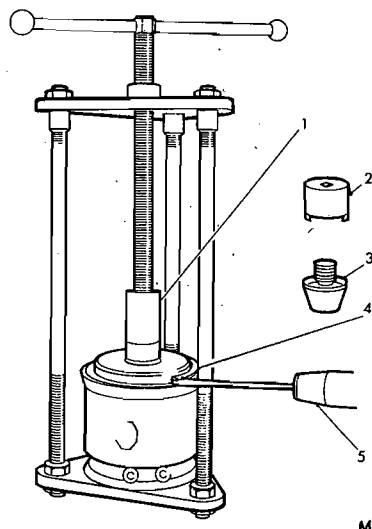

FIG. 2 TYPICAL SPRING BRAKE ACTUATOR HELD IN BASIC TOOL MS61 SHOWING CIRCLIP REMOVAL
**DANGER:** It is essential that the powerful coiled spring is carefully released from tension with service tool MS 61 and adaptor set WH 61-5, see Fig. 2.